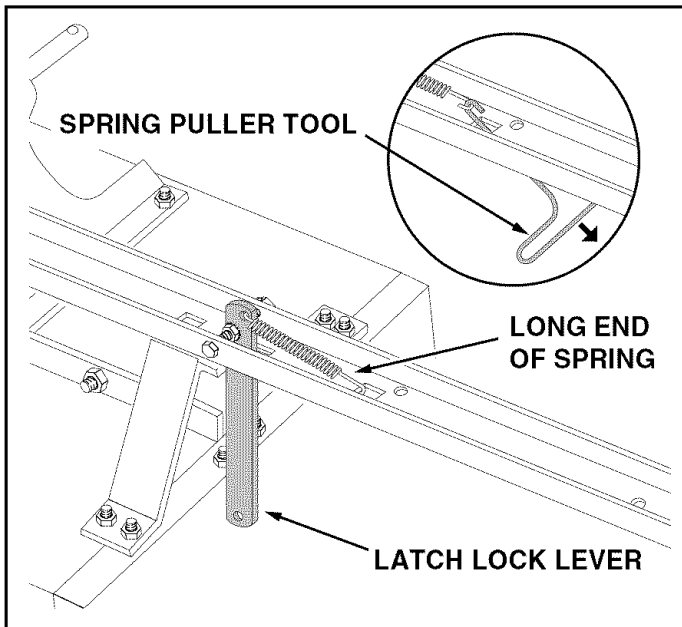

FIGURE 9
18. Hook the **short** end of the spring into the hole in the latch lock lever. Use the spring puller tool to hook the **long** end of the spring into the square hole in the tongue. The spring puller tool can be stored when finished. See figure 9.